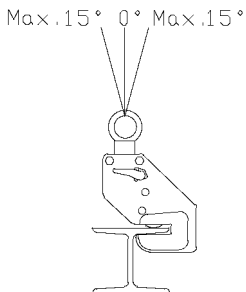
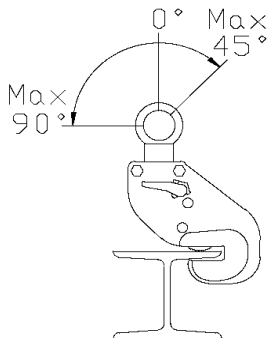

Figure 3:
Figure 4:
4. The rated capacity of the “SBC” and “HBC” models applies to a single clamp with a maximum sling angle of fifteen degrees (15°) forward or backward (Fig. 3 and Fig. 4). As the sling angle increases for the “HBC” model, the rated capacity of the clamp **decreases** (Fig. 4).
7. Never exceed a fifteen degrees (15°) front or back load with an “**SBC**” model clamp (Fig. 3).
8. Never exceed a forty-five degrees (45°) back load or a sixty degrees (60°) front load with an “**HBC**” model clamp (Fig. 4).
- Never exceed a fifteen degrees (15°) front or back load with an “**SBC**” model clamp (Fig. 3).
- Never exceed a sixty degrees (60°) front load or a forty-five degrees (45°) back load with an “**HBC**” model clamp (Fig. 4).